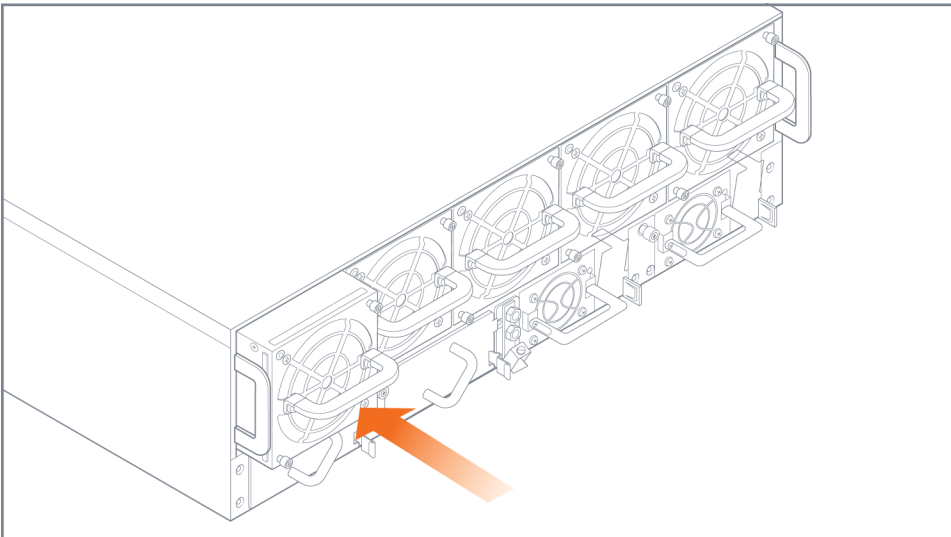

Figure 14: Fan Module Insertion
4. Insert the fan modules into the fan tray one at a time as shown in Figure 14: Fan Module Insertion.